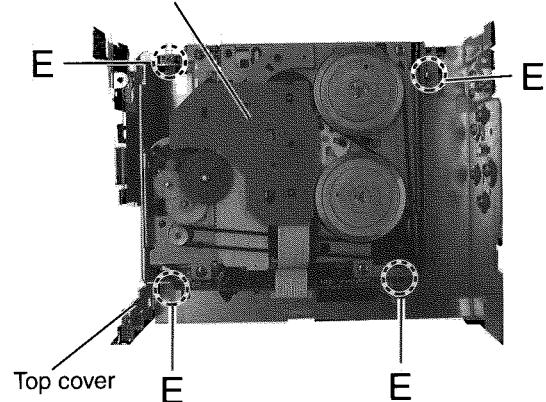

Fig. 6
(See Fig.6)
■ Removing the sub chassis (See Fig.6)